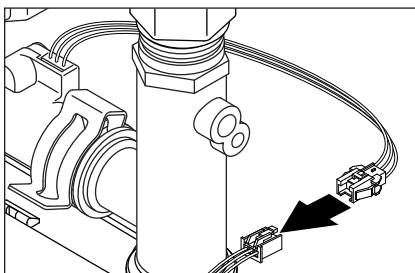

Figure 53 - Disconnect 3 Pin Wire Connector
- 7 Disconnect the 3 pin wire harness. Connector will be located near the cold water supply opposite from Smart Valve as shown in Figure 53. Place wires aside in a safe location so they are not damaged.